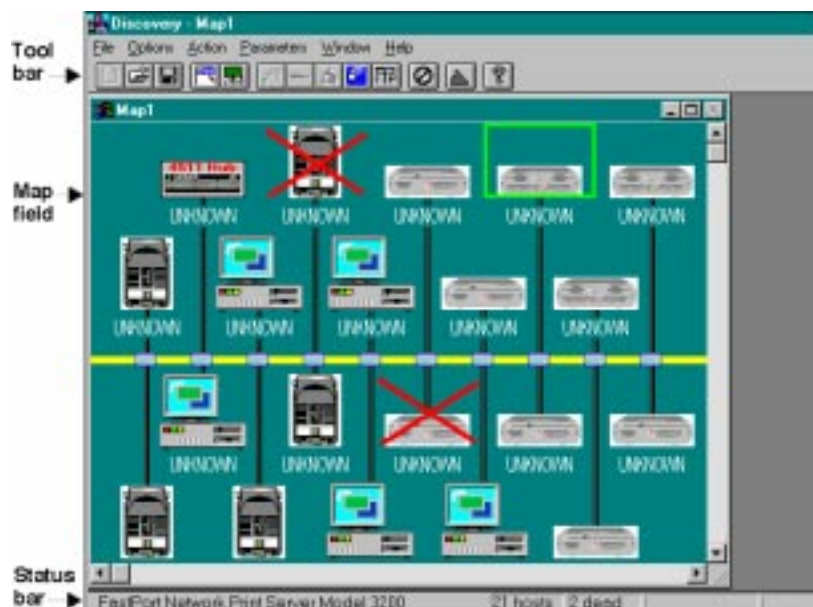

Figure 9-2. Map 1 Discovery Application
2. Devices will now appear on *Map 1* as “thumbnails,” which represents each SNMP device (Figure 9-2).
By default, the “Status Bar” displays below the Map field (Figure 9-2). This displays current information, including:
The name or address of a host is displayed below the device in the Map (Figure 9-2). Names are based on certain criteria: